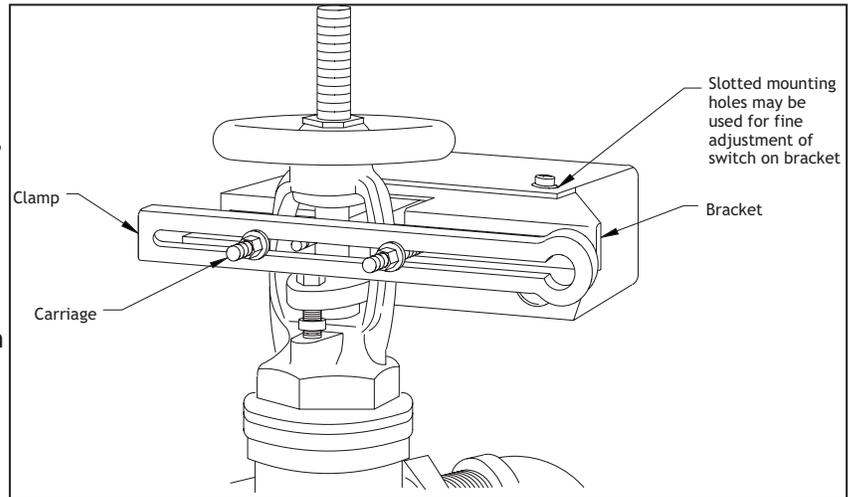

Figure 2: Small Valve Installation
8. Final adjustment is made by loosening 2 screws (see Fig.2) and sliding the OSYSU on the bracket. Adjustment is correct when switches are not activated with the trip rod seated in the valve stem groove and that the switches activate when the trip rod moves out of the groove.